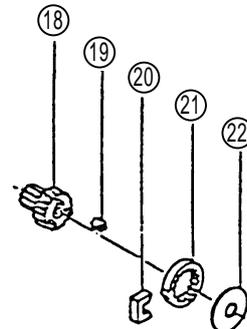

**Fig. 5 Leadwire Arrangement of Model D 10DF2**
As illustrated in Fig. 5, secure a J-148 Spring Lock Jig (Special Repair Tool, Code No. 970928) in a vise, and insert the assembled Keyless Chuck (2), Spindle (5), Cap (8) and related parts into the spline hole of the J-148 Spindle Lock Jig. Next, fully open the jaws of the Keyless Chuck (2), and remove the M5 x 17 Flat Hd. Screw (1) by turning it clockwise with a slot (minus) head screwdriver.
[1] Ensure without fail that wiring is connected as shown in the diagram (Fig. 5).